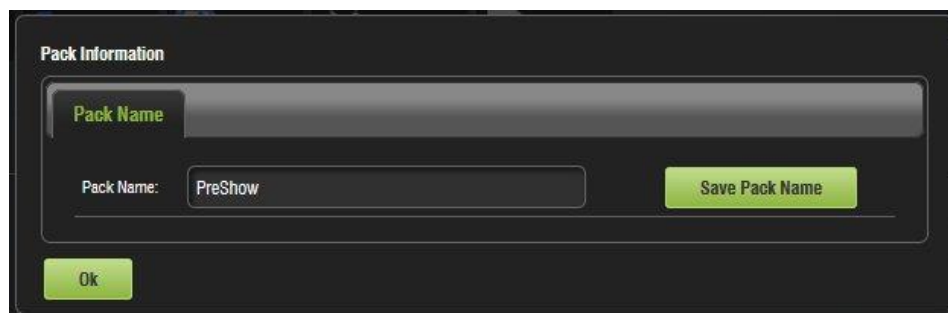

Figure 243: New Segment Naming
- The new segment will appear (Figure 243).